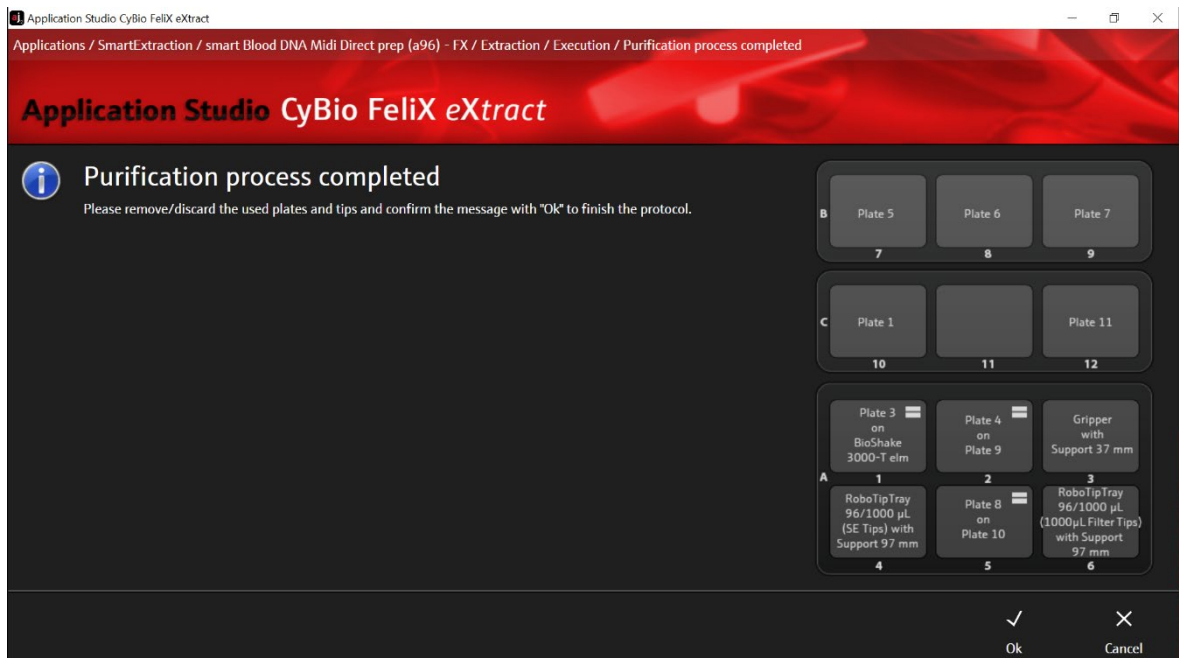

Figure 19: Purification process completed.
8. The chosen protocol is performed by the device. After the protocol is finished, the message "Purification process completed" is shown on the screen of the computer. Confirm the message with "Ok" (→ see Figure 19).